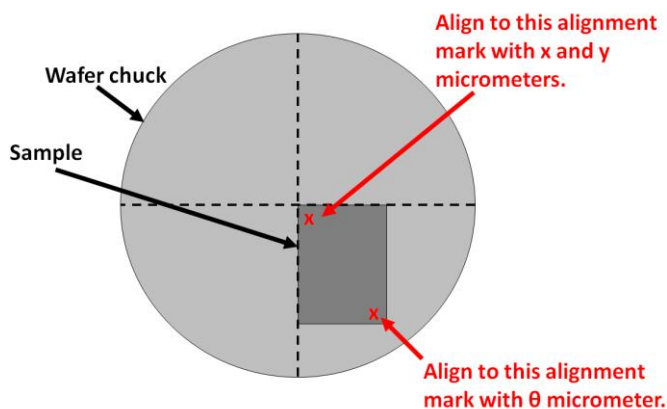

Figure 12 Aligning the sample when placed in the lower right quadrant.
- v) Perform all x and y positioning with alignment marks that are as close to the center of the chuck as possible (**Figure 12**).
- vii) All θ positioning will be performed with alignment marks that are as close to the edge of the chuck as possible (Please see **Figure 12**).